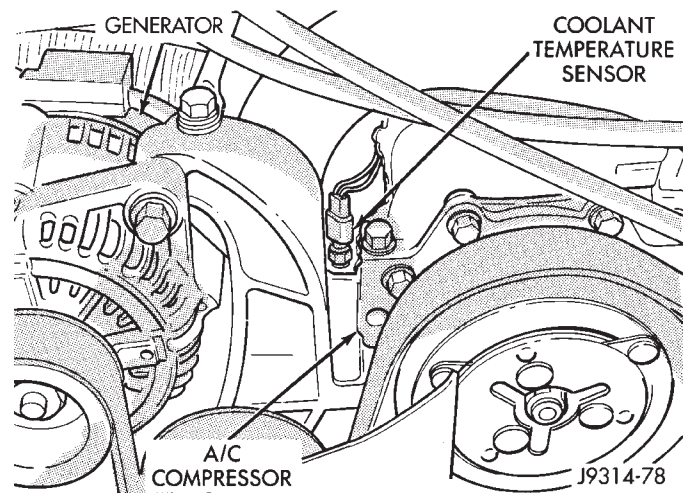

Fig. 9 Engine Coolant Temperature Sensor—Typical
(18) Verify that fuel injector wire harness connectors are firmly connected to injectors in the correct firing order. Each harness connector is numerically tagged with the injector number (INJ 1, INJ 2 etc.) of its corresponding fuel injector and cylinder number.
(19) Verify harness connectors are firmly connected to idle air control (IAC) motor, throttle position sensor (TPS) and manifold absolute pressure (MAP) sensor.
(20) Verify that wire harness connector is firmly connected to the engine coolant temperature sensor (Fig. 9).